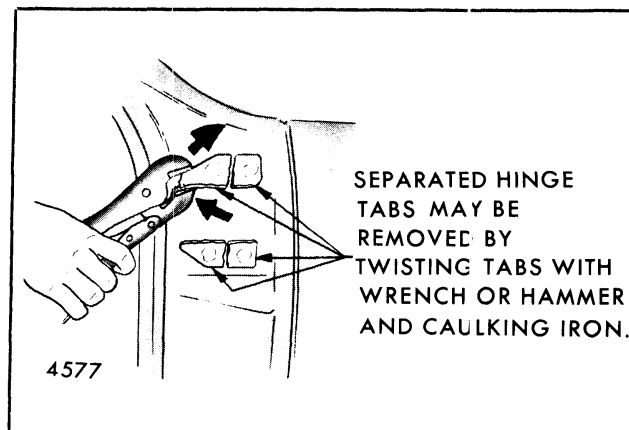

Fig. 5-65-Body Side Hinge Strap Removal - "X" Styles
5. Mig welds holding separated hinge tabs can be broken by twisting or rotating the individual hinge tab segments with suitable tool, such as, grip type pliers, pipe wrench, etc. (refer to Fig. 5-65).